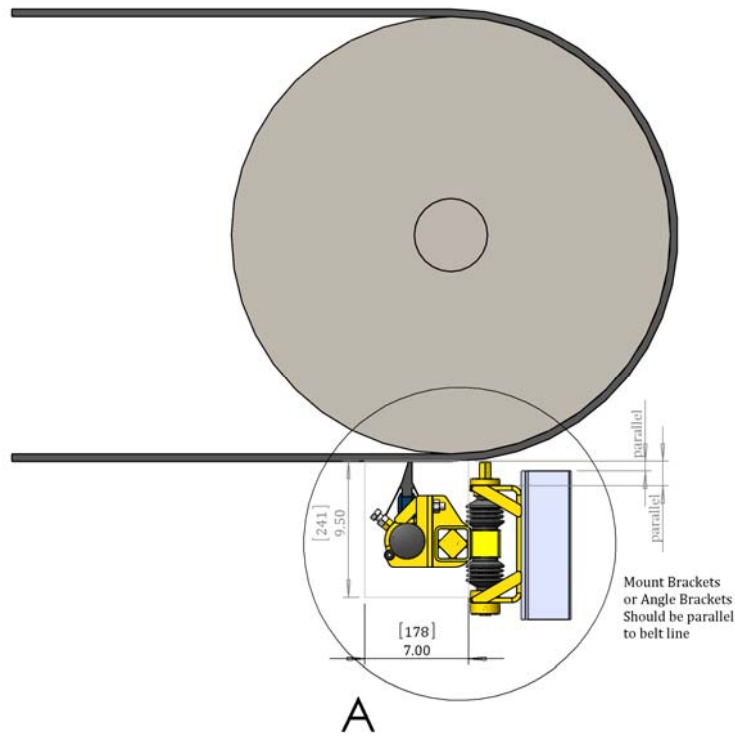
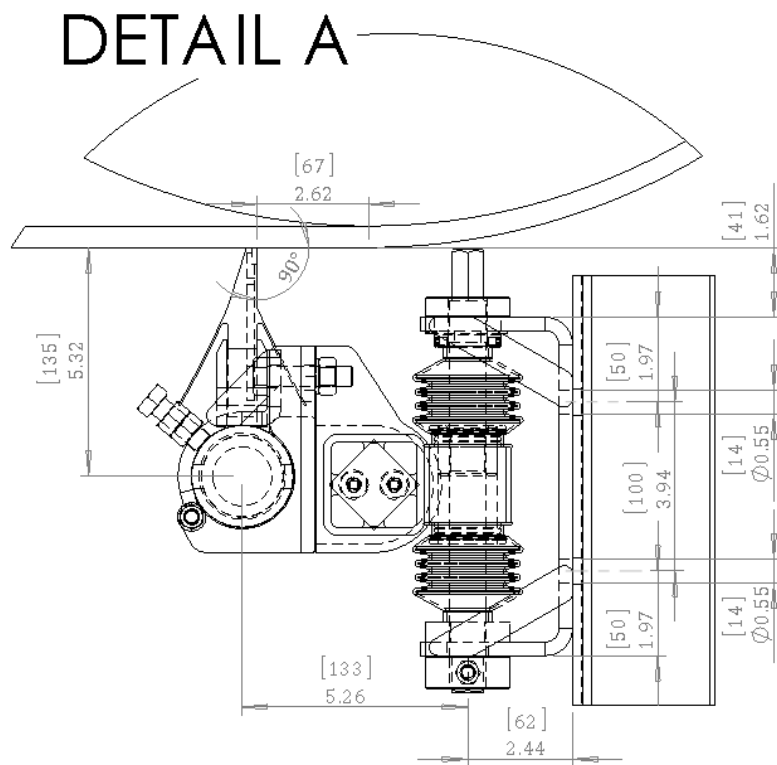

Figure 4
Figure 5
2. the BES1 secondary can be mounted at any location along the return side of the conveyor belt, but it should not be mounted directly on the drive pulley or directly across from any other pulley. The location of the recommended installation position is shown in figure 4, with mounting details in figure 5.
7. Ensure the scraper blade is perpendicular to the surface of the belt, or rotated backwards slightly. Once the unit has been in operation recheck their orientation to prevent belt damage, see Figure 5.